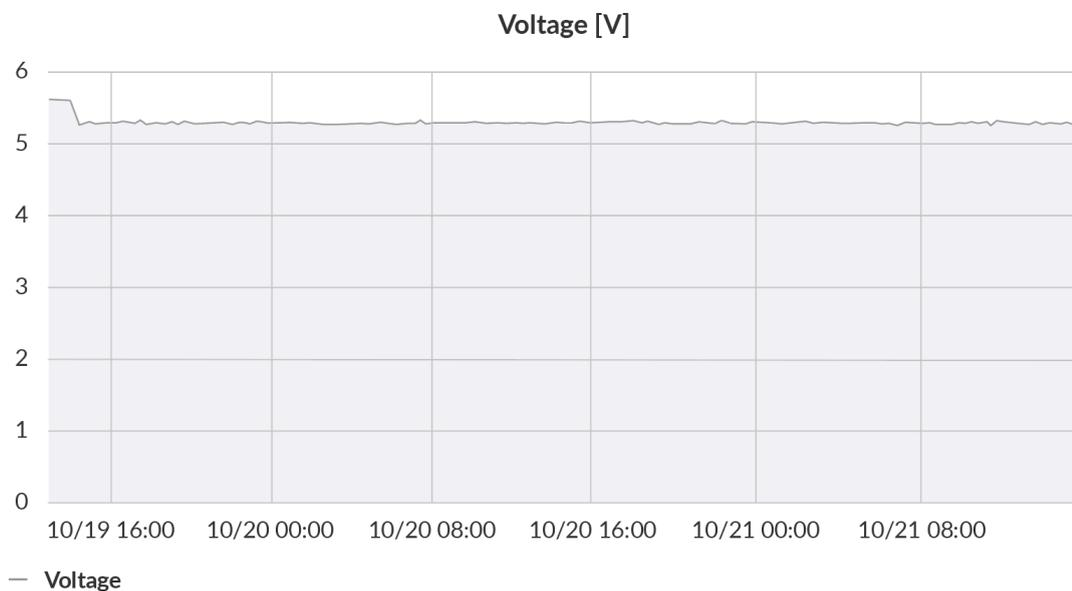

Figure 12 Power supply voltage example chart.
1. Important! Figure 12 shows the direction of detection, this must be taken into account when mounting the device.